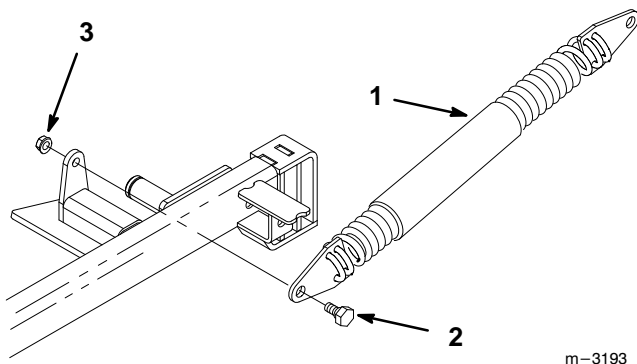

Figure 3
5. Secure spring end plate assembly to carrier frame with 3/8" x 7/8" (23 mm) shoulder bolt and 3/8" locknut (Fig. 3).